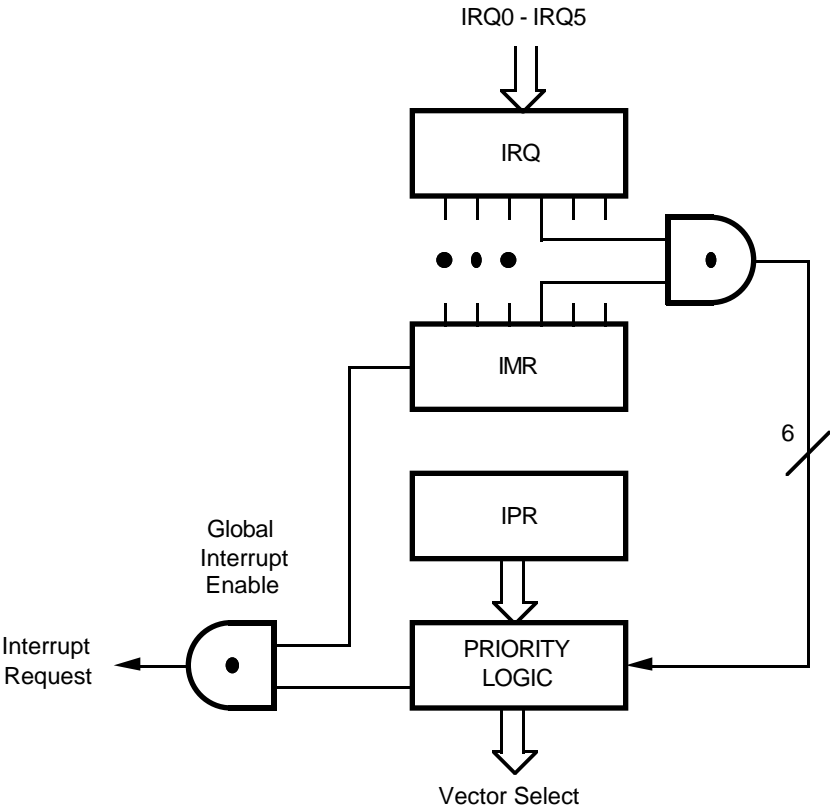

Figure 14. Interrupt Block Diagram
**Interrupts.** The Z8 has six interrupts from six different sources. These interrupts are maskable and prioritized (Figure 14). The six sources are divided as follows: the falling edge of P31 (AN1), P32 (AN2), P33 (REF), the rising edge of P32 (AN2), and the two counter/timers. The Interrupt Mask Register globally or individually enables or disables the six interrupt requests (Table 2).